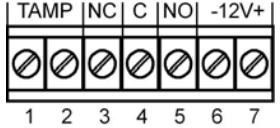

Fig. 4 Morsettiera | Terminal block | Bloc de bornes | Plaque à bornes
8. Connect wire to terminal block.(Fig. 4)
Terminal Block Connections (Véase la Fig. 4)